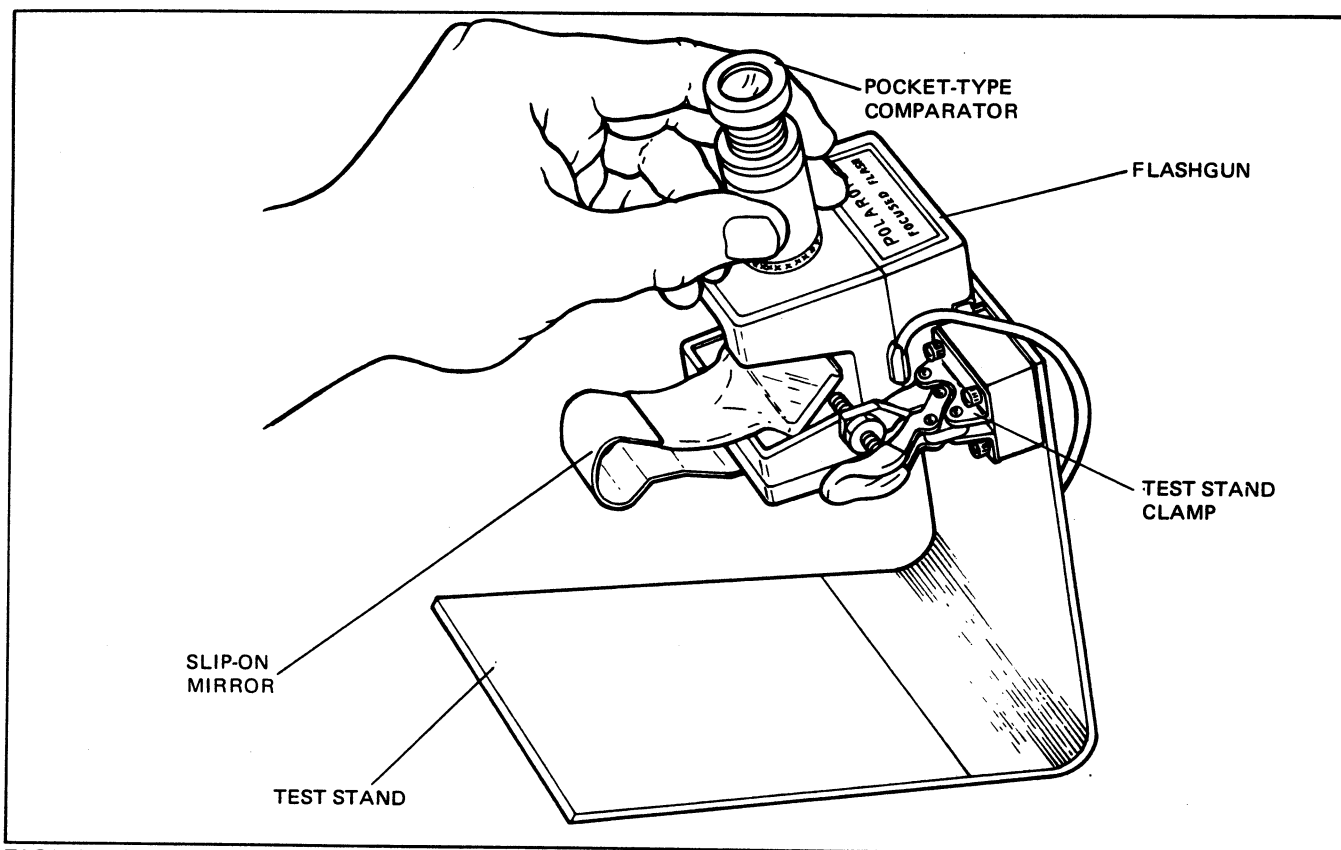

FIGURE 2 TEST STAND WITH FLASHGUN IN PLACE
1. Open the clamp of the test stand (see Figure 2).
4. Slip the clip-on mirror attachment over the battery compartment of the flashgun so that the mirror comes to rest against the center pin of the flash cube socket (see Figure 2).